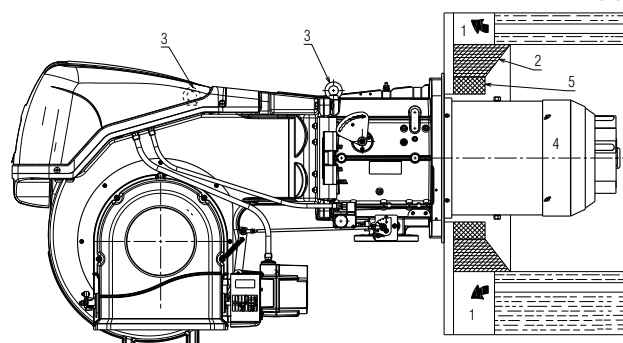

Fig. 13
For boilers with front flue passes 1)(Fig. 13) or flame inversion chamber, a protection in refractory material 5) must be inserted between the boiler fettling 2) and the flame funnel 4).
For boilers with a water-cooled frontpiece, a refractory lining 2)-5) (Fig. 13) is not necessary, unless expressly requested by the boiler manufacturer.
Prepare a suitable lifting system using rings 3)(Fig. 13).
- Fit the heat insulation supplied onto the blast tube 4)(Fig. 13).
- Unhook the tie-rod 1)(Fig. 13) of the gas butterfly valve movement lever, removing the nut.